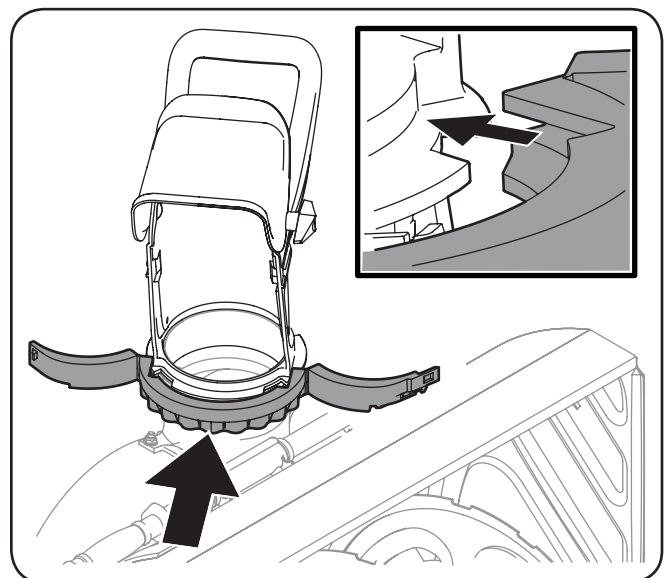

Figure 3-4
4. Install the chute band as shown in Figure 3-4. With the discharge chute positioned to the right as shown, install the chute band by lining up the notches in the front with the band, and making certain to fit the discharge chute inside the channel of the chute band, as detailed in the inset of Figure 3-4.